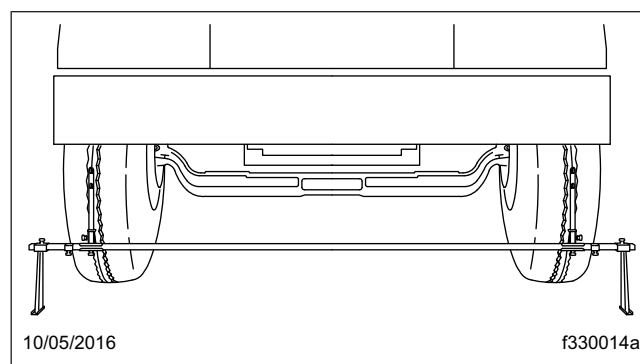
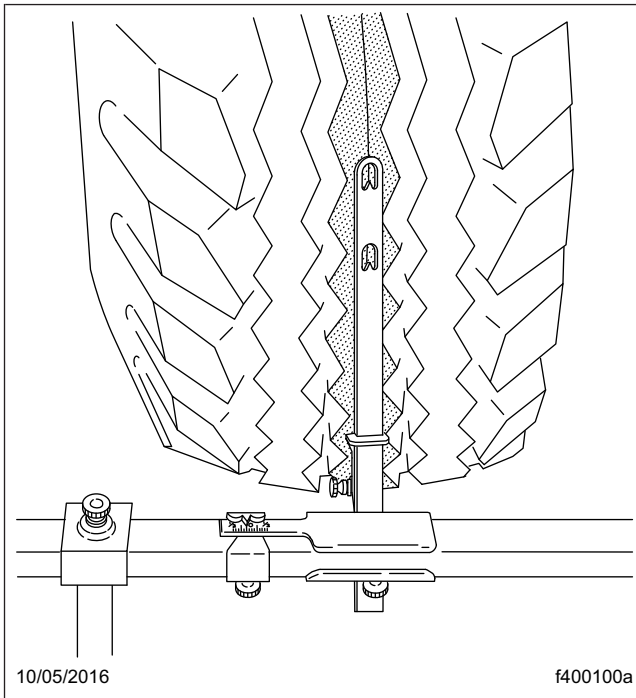

Fig. 7, Trammel Bar Positioning
Fig. 8, Setting Trammel Bar Pointers
7. Place the trammel bar at the front of the tires (see **Fig. 7**) and adjust the scale end so that the pointers line up with the scribe lines. See **Fig. 8**.